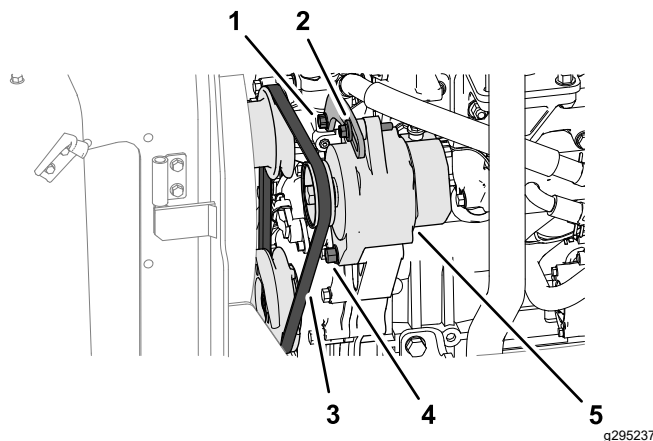

Figure 69
1. Apply 10 kgf (22 lb) of force against the alternator belt (Figure 69), midway between the pulleys.
- If belt deflection is less than 10 mm (3/8 inch), loosen the alternator pivot bolt and tension bolt (Figure 69), and reduce the belt tension.
- If belt deflection is greater than 10 mm (3/8 inch), loosen the alternator pivot bolt and tension bolt (Figure 69), and increase the belt tension.
Note: If needed, loosen the tension bracket bolt (Figure 69).
3. Tighten the bolts (Figure 69).